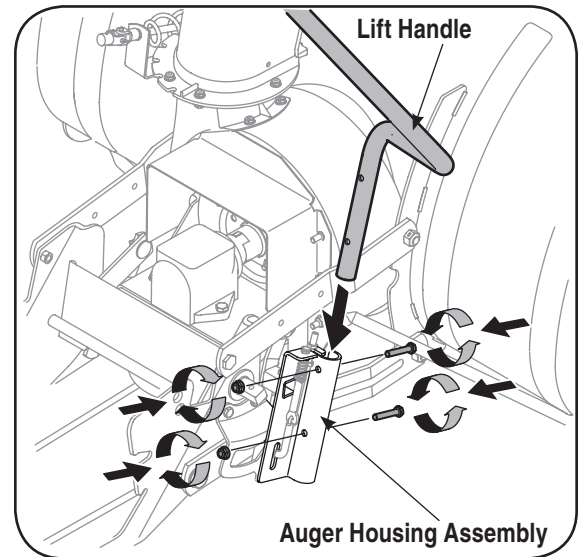

Figure 6-3
1. Attach lift handle to lift bracket on the right side of auger housing assembly with two hex screws and two flange nuts provided. See Fig. 6-3.